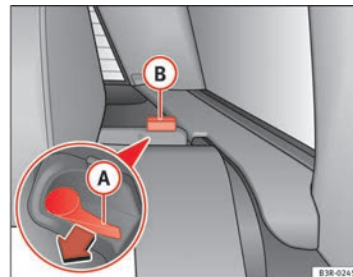

Fig. 127 Backrest release lever
- Press the release lever **A** ⇒ **fig. 127** in the direction indicated by the arrow.